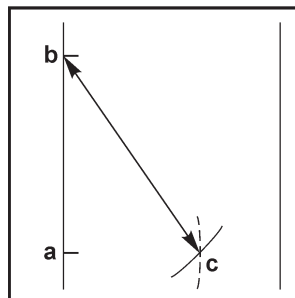

Figure 5
5. Measure 10 feet from point "b" down toward "c". Make another "arc". Mark where the 6 foot and 10 foot arcs meet (see Figure 5).